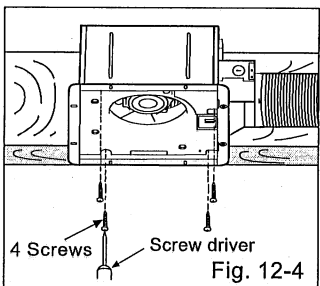
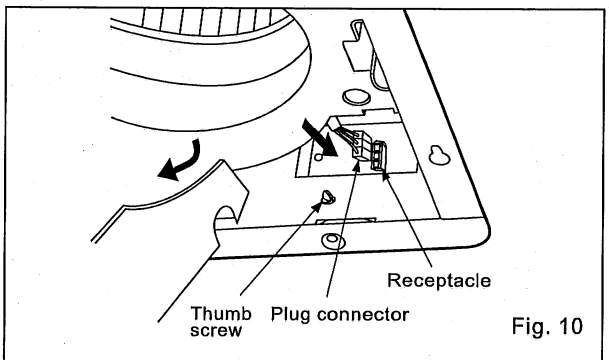

Fig. 12-4
Fig. 10
6. Open the orifice cover, secure the fan body to adaptor by using thumb screw and plug connector to receptacle (Fig. 10)
5. Secure the adaptor to fan body by using thumb screw. (Fig. 10)
8. Secure the blower. (Fig. 12-4) and plug connector to receptacle (Fig. 10)